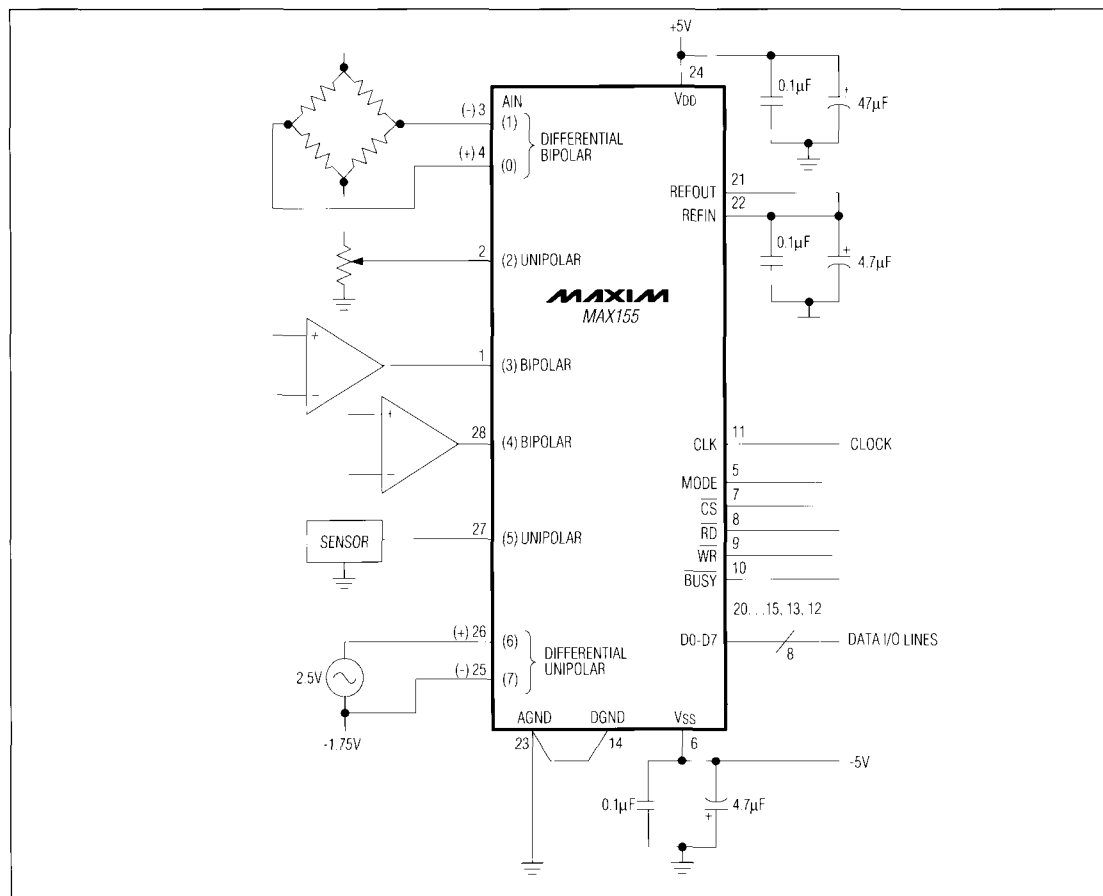

Figure 10. MAX155/MAX156 Typical Operating Circuit
3. Data is read from RAM with $\text{INH} = \text{L}$ and consecutive RD strobes. Note that in the 6 channel configurations described in this example (Figure 10), 6 RD pulses access all available data, starting with the differential channel (1,0). Additional RD pulses loop around, accessing the lowest channel data again.